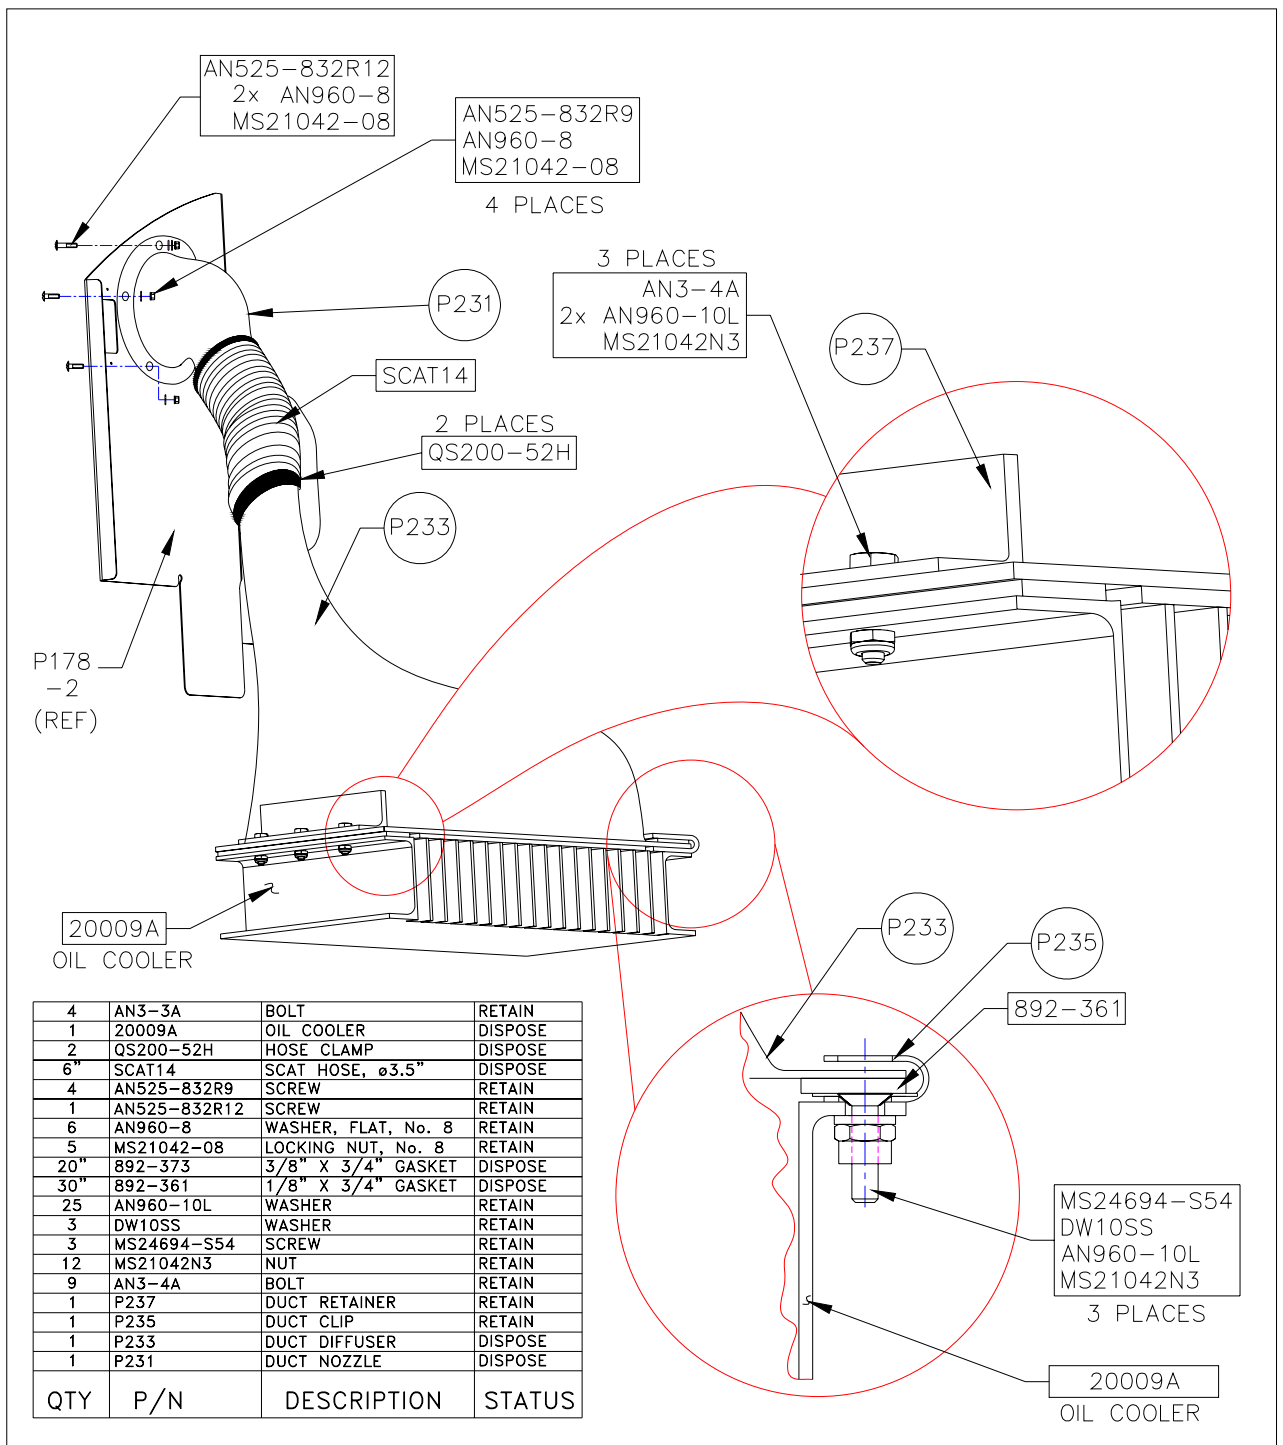

FIGURE 1 PARTS REMOVAL DETAILS
2. Remove the components shown in Figures 1 and 2. Retain all hardware as indicated.